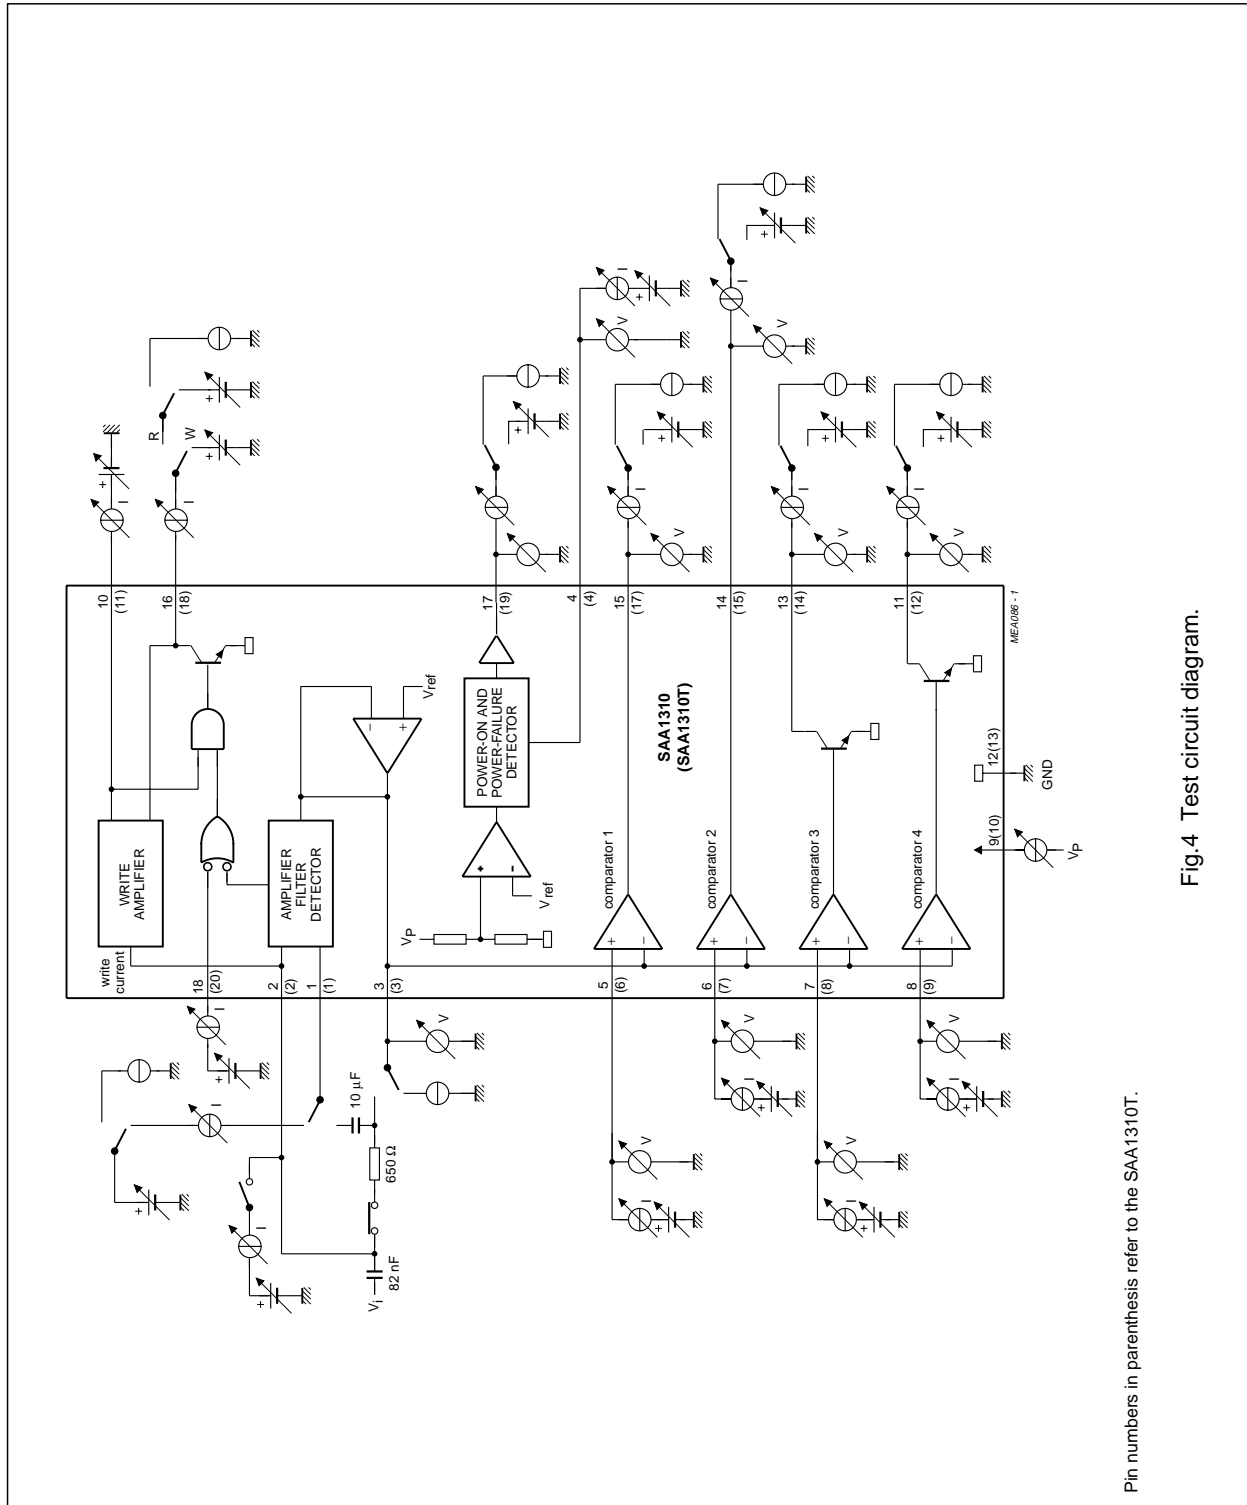

Fig.4 Test circuit diagram.
$V_P = 5\text{ V}$ ;  $T_{\text{amb}} = 25\text{ °C}$ ; all voltage referenced to pin 12 (13); according to the test set-up (see Fig.4); unless otherwise specified